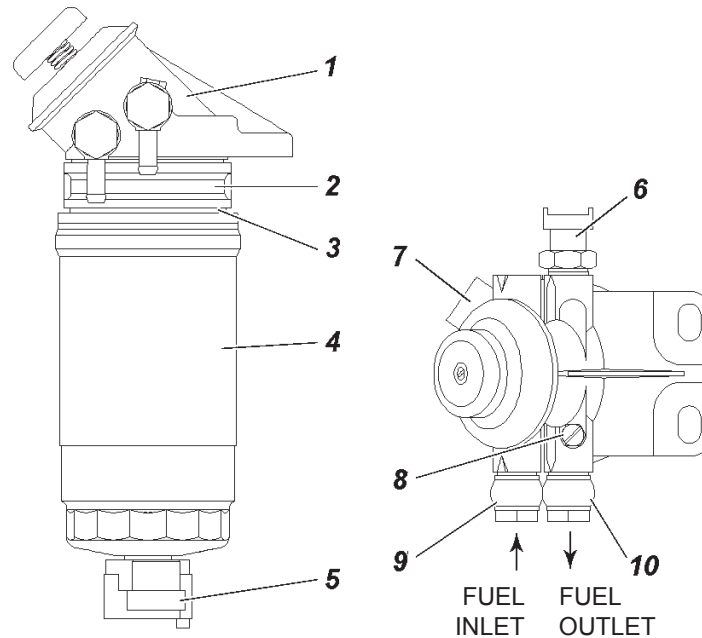

Fig. 9.18. Final fuel filter with priming pump and water-in-fuel presence indicator in the settling drain plug:
- for initial filling of the fuel system, use the priming pump on the final fuel filter. Air shall be drained through the screw of the final fuel filter 7 (Fig. 9.18);
For the final fuel filter use BOSCH, 0 450 126 273, shown in Fig. 9.18.